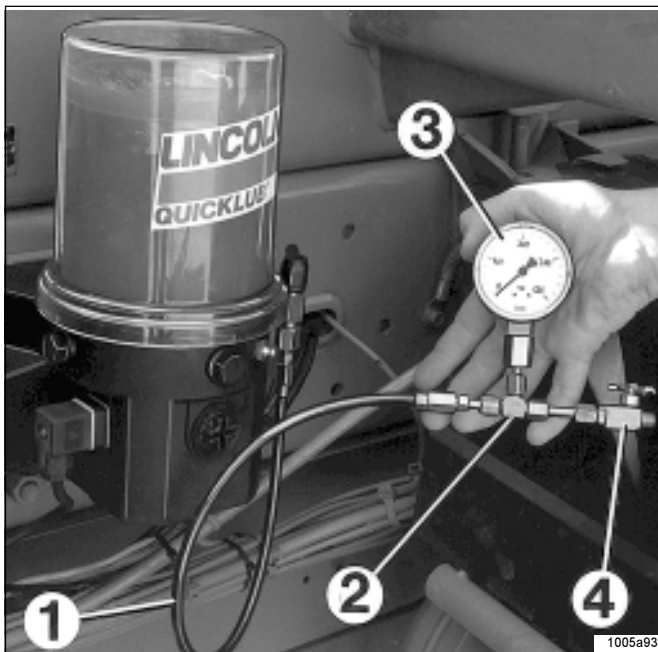

Fig. 23 - To check the safety valve
- \* Connect the pressure gauge (0-600 bar; 0-8708 psi) to the safety valve (Fig. 23).